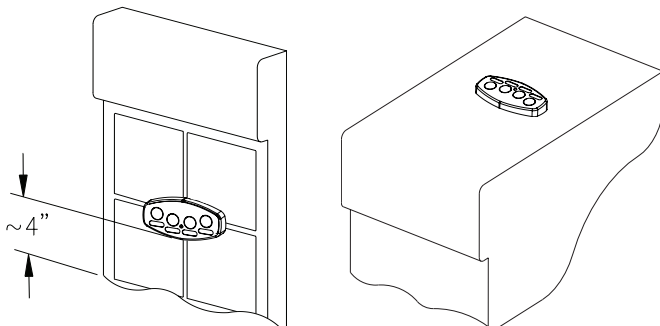

Figure 3.
3. Affix remote to 1 in. diagonal PVC conduit using a small amount of silicon on back of unit. Orient unit per Figure 3 for optimum usage by spa occupant. Attach appropriate labels to remote.
2. Drill 1-5/8 in. diagonal hole in wall of spa or hot-tub. Insert Spa Wall Mounting Adapter, and use lock-nut on external surface of wall to secure Spa Wall Mounting Adapter into place. See Figure 3.